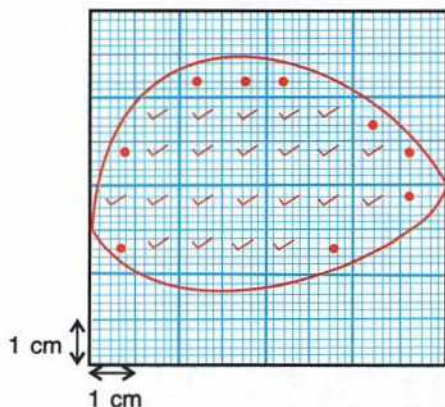

Fig. 2.21 Measuring the area of an irregular surface using a graph paper
3. In Fig. 2.21, the number of complete squares (\checkmark) = 22, the number of half or more than half squares (\bullet) = 9